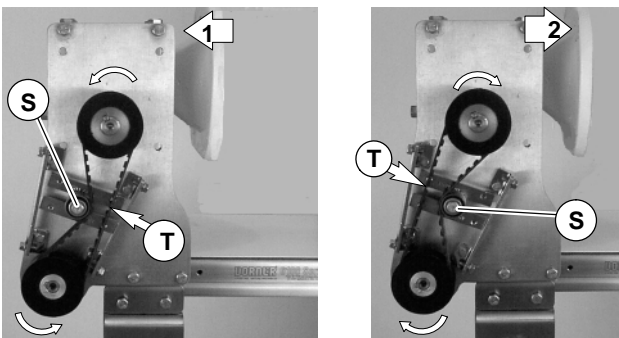

Figure 8
- Depending on conveyor belt travel (1 or 2 of Figure 8), locate timing belt tensioner (S), as shown. Tension timing belt to obtain 3 mm deflection for 4.3 N of force at timing belt mid-point (T). Tighten tensioner to 51 Nm.